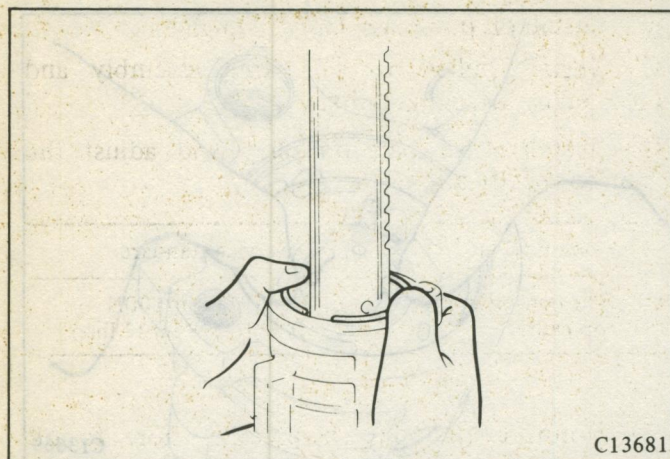

Fig. 108 Installing End Cover Retaining Ring
(12) Lubricate end plate with MOPAR ATF DEXRON II (Part Number 3459660 or 4131509) or equivalent, so as not to damage O ring and press into housing with an arbor press (Fig. 108).